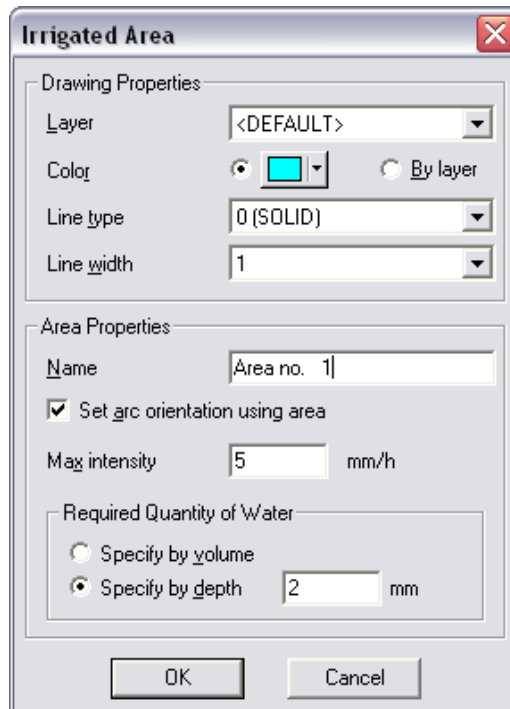

Figure A 1
4. The required quantity of water to be applied can be expressed by volume (US gallons or litres) or depth (inches or mm). Select "*Depth*" and enter **2mm**. See Figure A 1. Click [OK].